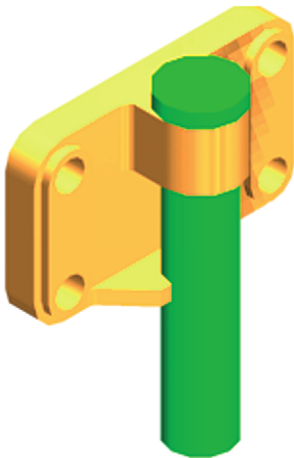

Fig. 19.17 First example of 3D models
First example (Fig. 19.17)
7. **SW Isometric** view. Render. Adjust lighting and materials as necessary (Fig. 19.17).